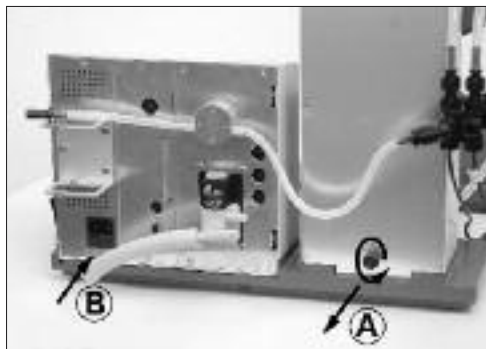

Fig. 4a
**ATTENTION!** Loosen transportation lock (fig. 4a)!